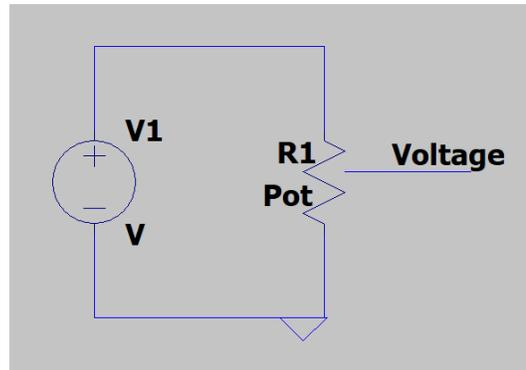

Fig. 5 A voltage divider implemented with a potentiometer.
1. As explained earlier, potentiometers may be used to create miniature voltage dividers. Connect your potentiometer as shown in Fig. 5, with the outside pins connected to a 10 V source and the middle pin connected to a voltmeter. Turn the dial of the potentiometer and notice how the voltage changes.